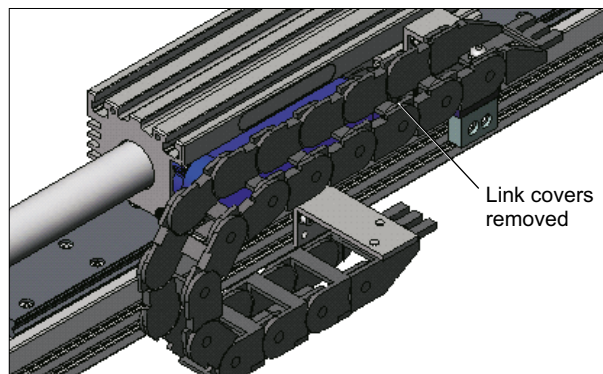

Figure 3.4
- With the cover section removed the cables can now be removed from the drag chain, see Figure 3.4.